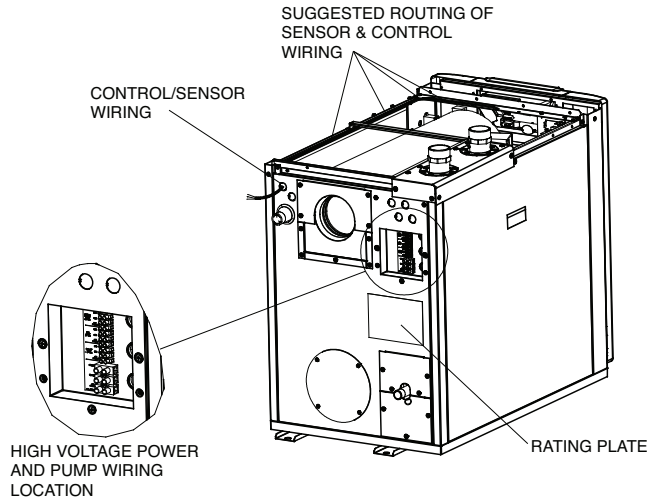

Fig. 14: Rear Wiring Location
3. Route the FT_BUS wires from the front along the top rails and out the back of the cabinets (as shown in Fig. 14).